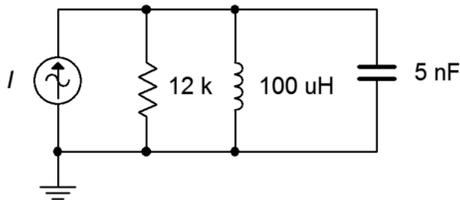

Figure 8.11
25. For the circuit shown in Figure 8.11, determine the resonant frequency, system  $Q$  and bandwidth. If the source is 500  $\mu$ A, determine the resistor voltage and the three branch currents at resonance. Assume the inductor's  $Q$  is given by curve C.